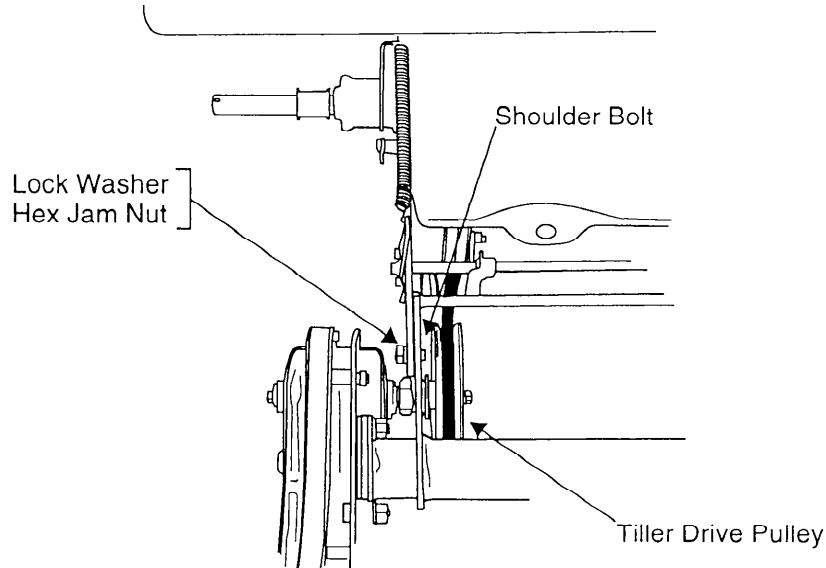

Figure 6
- Secure the weld pin using flat washer (D) (1/2" I.D. x 1" O.D.) and hairpin clip (J).
- Secure the left hand side of tiller to the support pivot bracket using shoulder bolt, lock washer and hex jam nut provided. Head of the shoulder bolt must be to the inside of the tiller. See Figure 6.